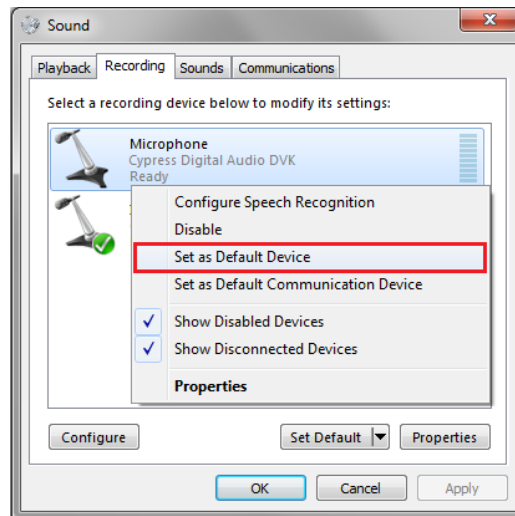

Figure 14: Setting Cypress Digital Audio DVK as Default Device
- In the *Recording* tab, right click on “Cypress Digital Audio DVK” and set it as the default audio device as shown in the **Figure 14**.